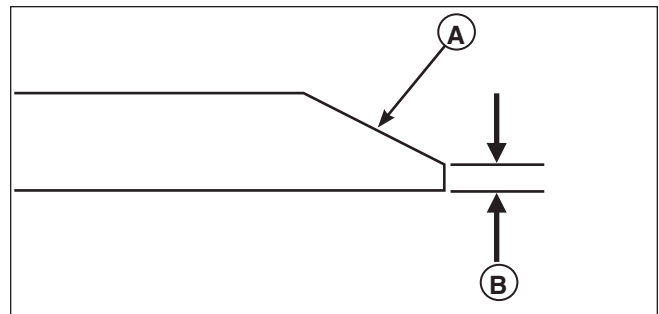

Figure 15. Sharpening the Mower Blade
3. Keep the original bevel (A, Figure 15) when grinding. DO NOT change the mower blade bevel.
4. The mower blade should have a maximum 1/64" (0,40 mm) cutting edge (B) or less.